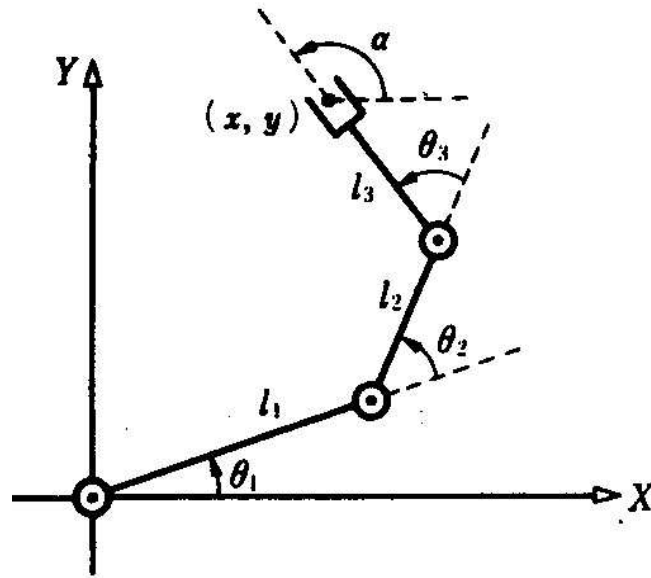

Figure 1:
4. Find the Jacobian matrix for the three-link planar manipulator shown in figure 1. [16]